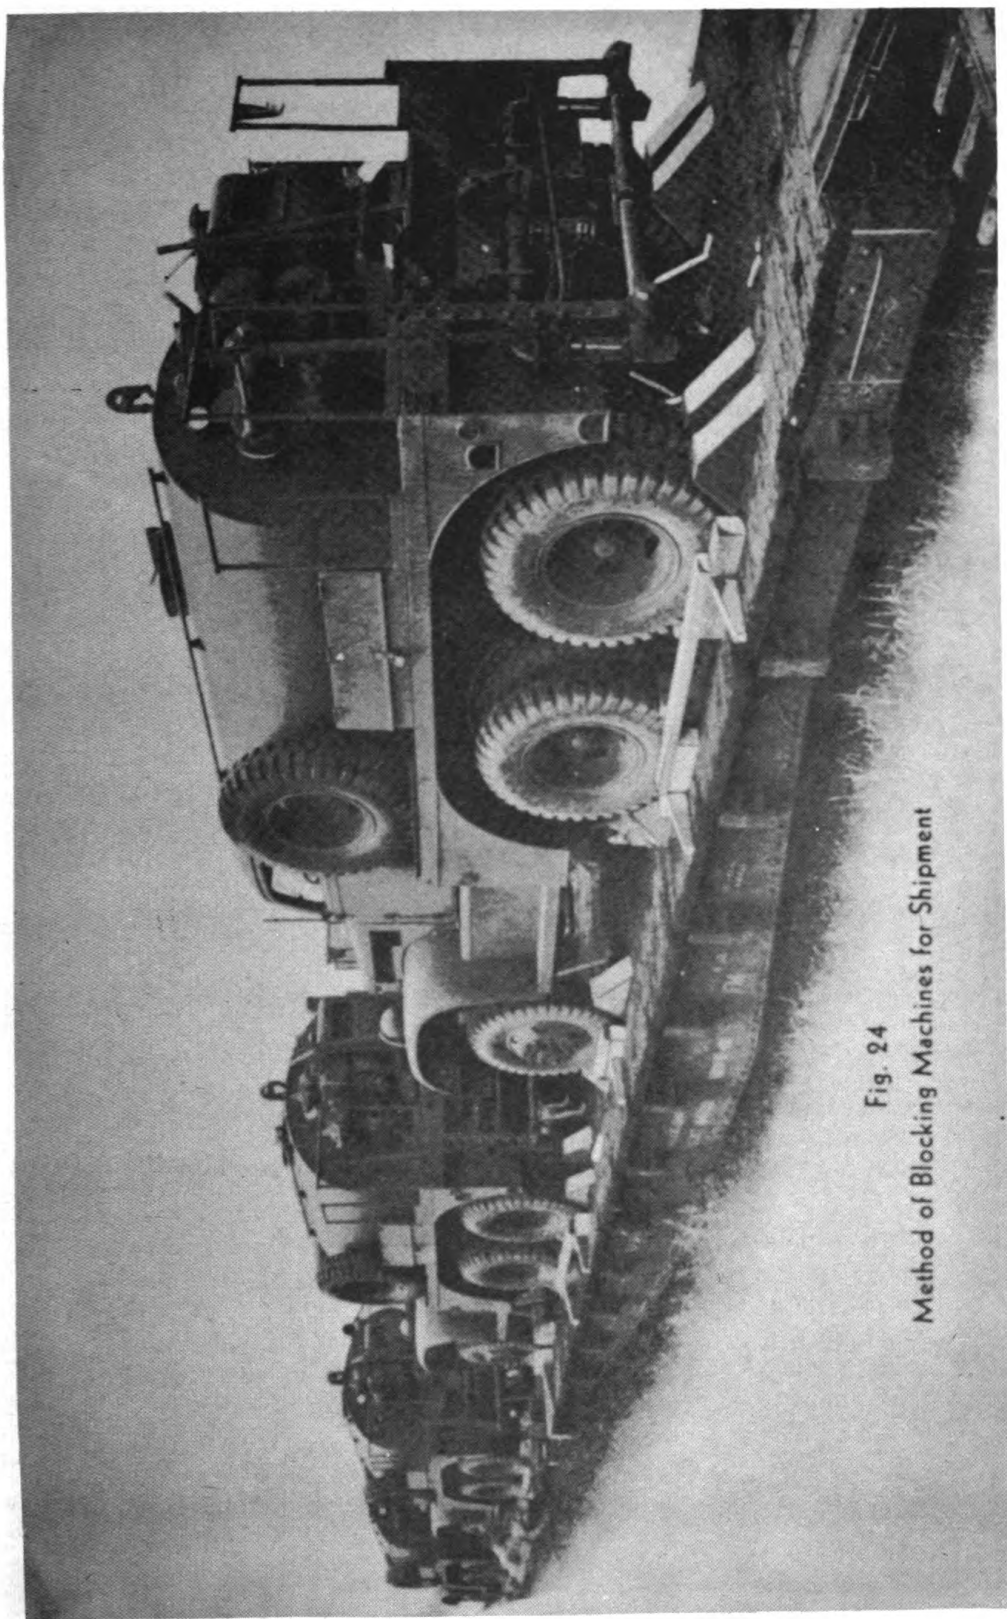

Fig. 24
**VIA RAIL**—These units may be shipped in end door box or flat cars, the latter being preferable. (Fig. 24) shows a common method of shipping these machines on a flat car. Twelve beveled blocks approximately 24x12x6 are nailed to floor of car at both ends of each wheel. Suitable side bracing may be nailed to floor as shown in illustration. Six straps (10 gauge x 1 band iron) are placed over the axles and nailed to the floor. No disassembly is required when shipping in either type of car.